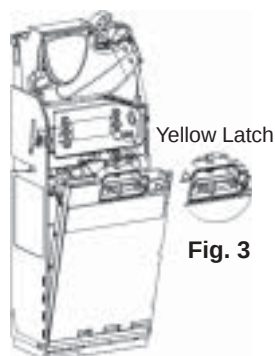

Fig. 3
- Remove cassette by sliding two fingers in the yellow latch and lift the cassette outwards and upwards as shown in Fig. 3.